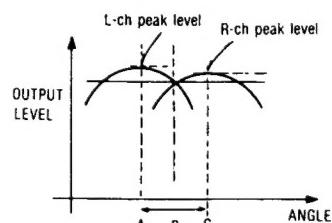
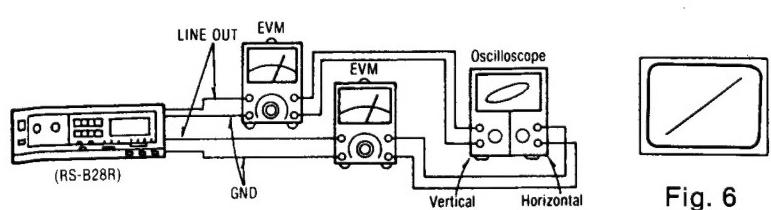

Fig. 4
Fig. 5
Procedure 1 → 5	<ul style="list-style-type: none"> Remove the 2 connectors (A, B) and 7 flat cables (b, f, g, h, i, x, y). Remove the 3 setscrews (①~③) (see fig. 4). Push the 2 tabs aside (see fig. 4).  <p>Fig. 5</p>
5. Make connections as shown in fig. 5.